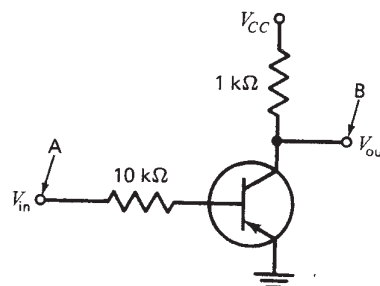

Fig. 59-3. Transistor switch.
1. Connect the circuit in Fig. 59-3. Apply the correct polarity of voltage to V_{CC} .
1. In the above circuits, what voltage level would a binary 1 represent? A binary 0? Are the answers the same for both the circuits shown in Figs. 59-3 and 59-4?
4. Are the saturation and cutoff points the same for both the circuits shown in Figs. 59-3 and 59-4?
5. What are the fundamental differences between the two circuits shown in Figs. 59-3 and 59-4? Do the differences significantly affect overall outcomes? Explain.